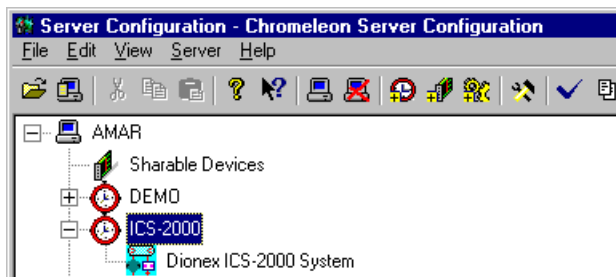

Figure 15. Server Configuration with ICS-2000 Timebase
1. In the Server Configuration program, click the + icon next to the server name to expand the folder. The timebase you created is displayed (see Figure 15).